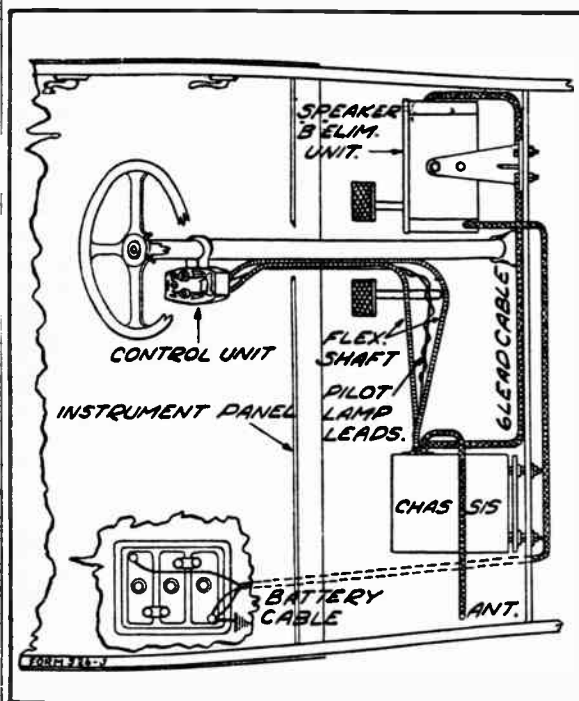

Fig. 1—General Installation—Top View
The control unit is mounted on the steering column under the steering wheel as shown in Figs. 1 and 2. A clamp is used to hold it in position.
The chassis is mounted in back of the dash as shown in Figs. 1 and 2. It should be mounted in such a way that the flexible drive shafts to the control unit will be in as straight a line as possible. The chassis is mounted with the anchor bushing into which the flexible drive shafts go, facing the control unit. In the illustrations mentioned above, the
To balance the I.F. circuit remove the cap and lead from the grid of the 6C6 tube in the control head and attach the test oscillator to the grid and to ground. Set to 485 K.C. and first adjust the primary I.F. trimmer shown (A) in Figure 1. Next trim the secondary (B). Now turn the plate trimmer (C) on the side of the chassis base to resonance, with a No. 4 Spintite wrench. Its (2nd I.F.) transformer is directly above the adjustment. Set the screw (D) in the top of the transformer shield to resonance also. The third I.F. transformer is adjusted through a hole in the rear of the chassis and also on top of the transformer indicated at E and F. This completes the I.F. circuit. Replace the grid lead on the 6C6 and screw the metal cap back in position.